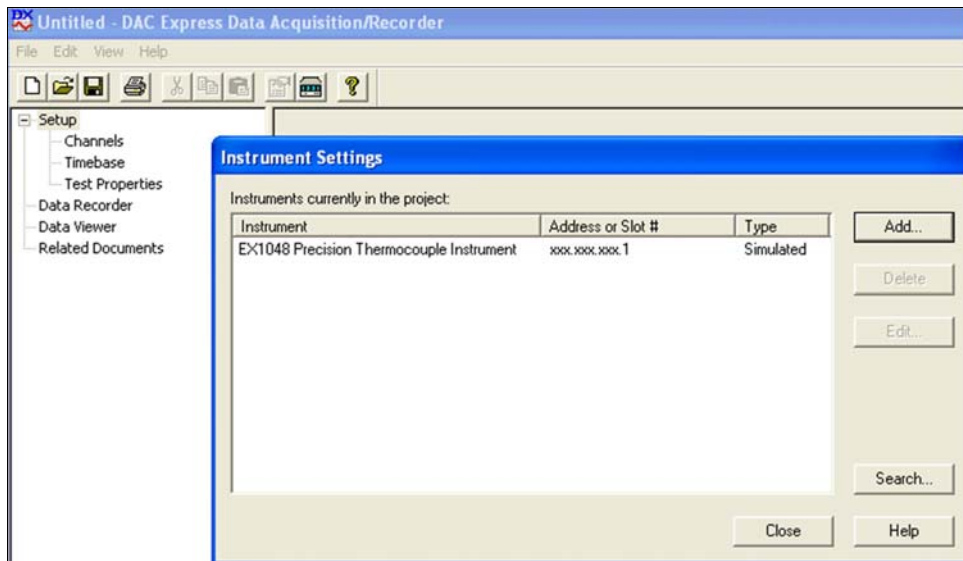

FIGURE 3-5: INSTRUMENT SETTINGS DIALOG BOX
- 5) The EX1048 is now added to the project. Click on the **Close** button to continue (see Figure 3-5).